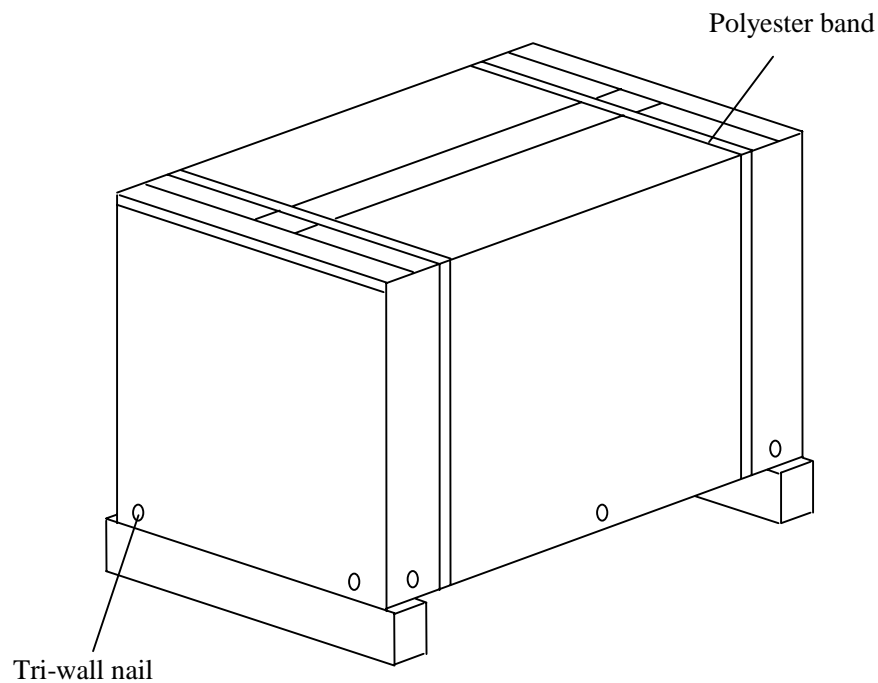

Figure 3.1 Subsystem being Packed
(1) Figure 3.1 shows how the subsystem has been packed.